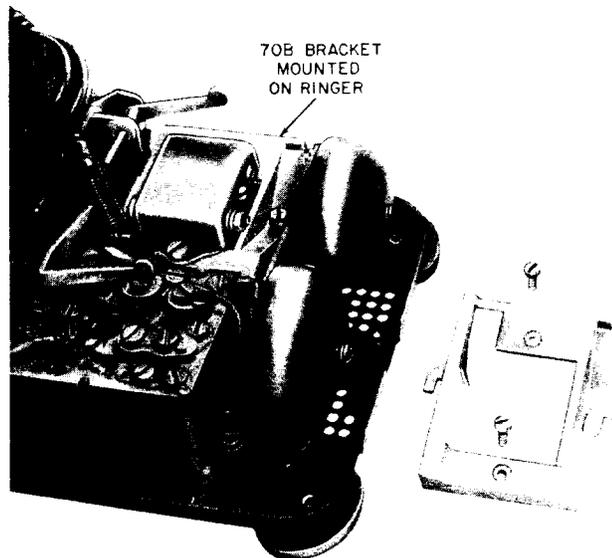

Fig. 12—70B Bracket
**3.05** When mounting KS-8108, KS-8109, and KS-8110 type buzzers on a 70B bracket (Fig. 12) position the buzzer so that it will not interfere with the electrical or mechanical operation of the telephone set, and so the buzzer adjustment screw is accessible.